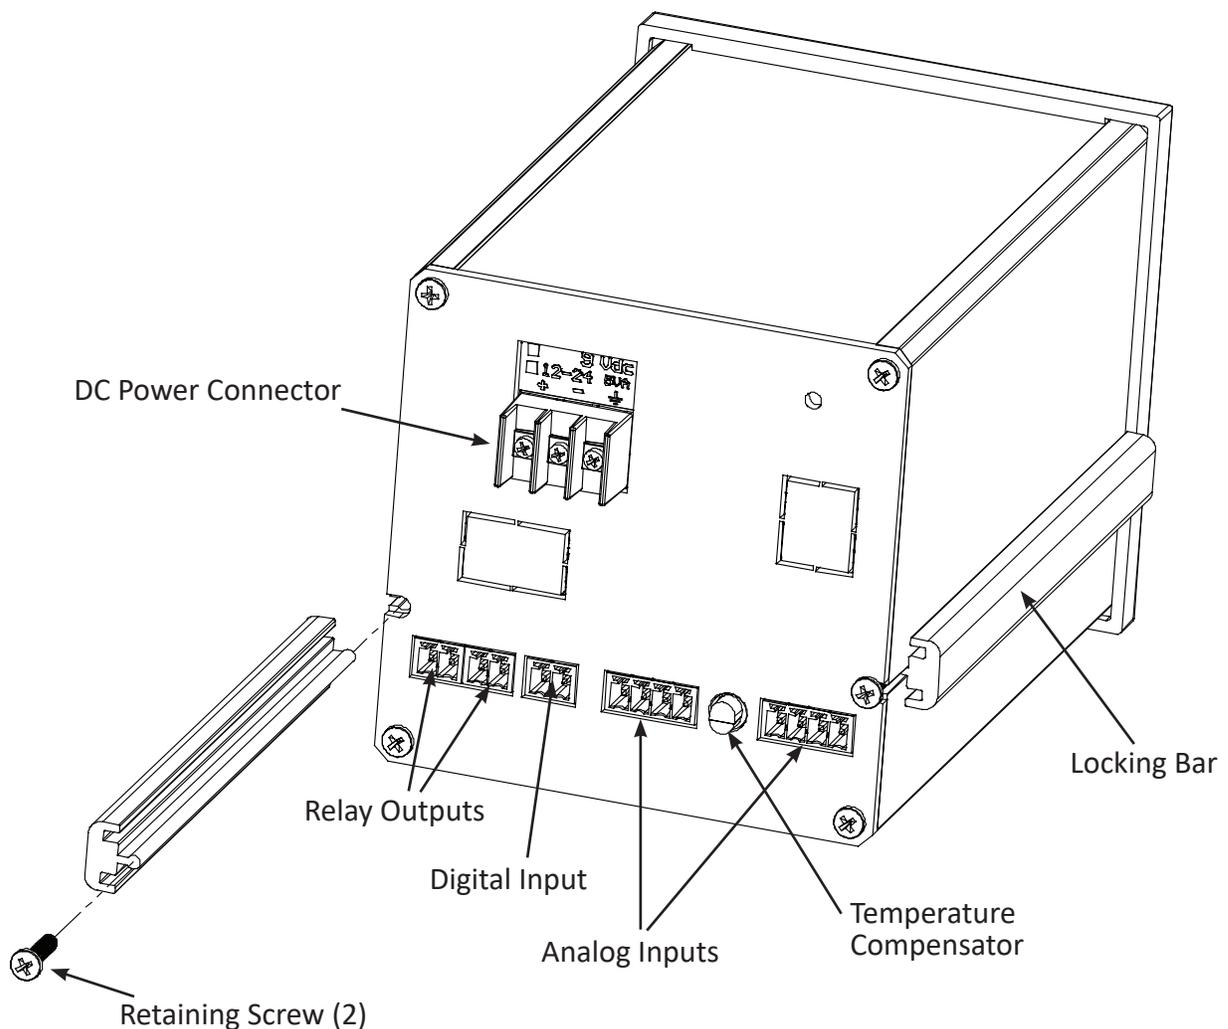

Figure 2.2 Rear View — Installation
- 2.2.1.5** With the Recorder held firmly in place against the panel, install one of the locking bar assemblies from the rear, by sliding the locking bar tongue into the groove on the side of the Recorder enclosure as shown in Figure 2.2.